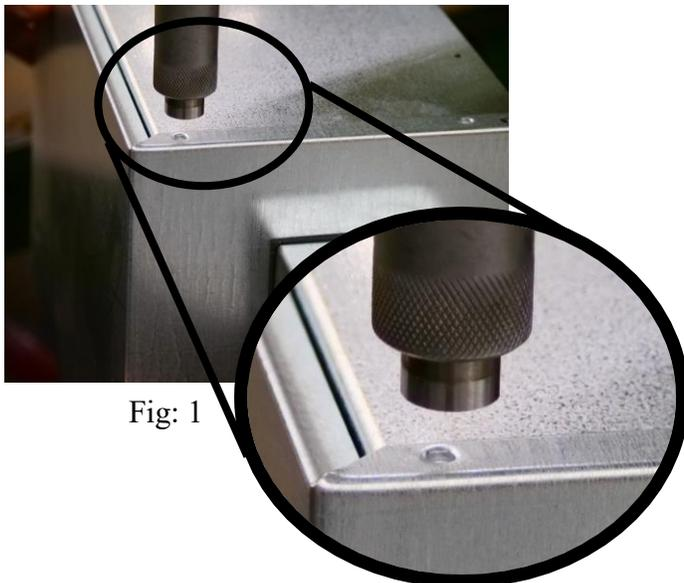

Fig: 1
- Reduced machine cost; typically, a small mechanical or hydraulic press is all that is required (See Fig. 1).